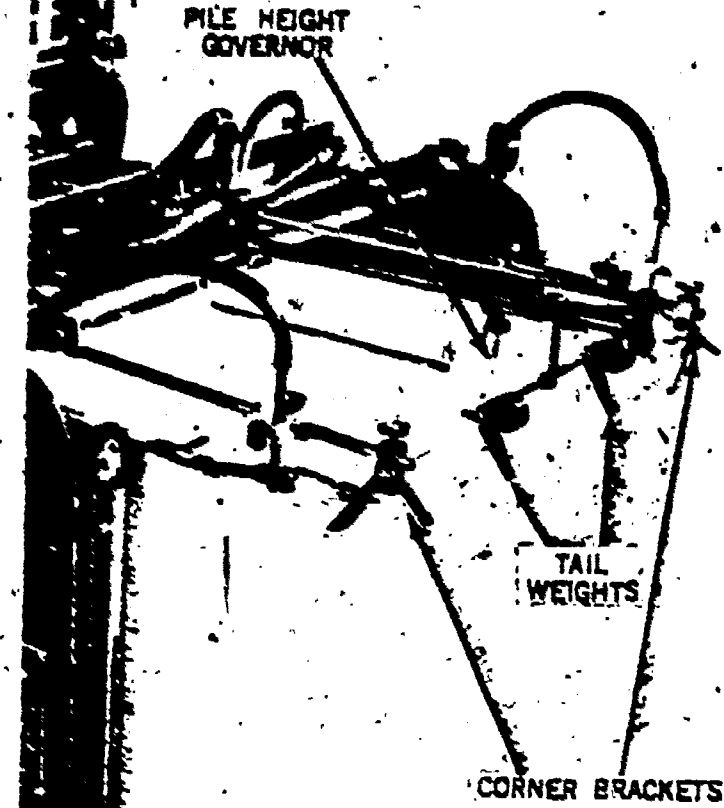

Figure 8-11. Feeder board rear pile guides.
Pile height governor	Regulates the height of the top of the pile as it is rising automatically (fig. 8-11).
Corner brackets	Used, along with the tail weights, to hold the stock against the pile guide bars (fig. 8-11).
Tail weights	Used, along with the corner brackets, to hold the stock against the pile guide bars. They keep the sheets from floating back when the airblast is turned on (fig. 8-11).
(6) *Setting rear pile guides* (fig. 8-11). Complete the loading of the feeder board by setting the corner brackets and tail weights. These push the entire pile lightly forward against the front pile guide bars. Do not set the corner brackets and tail weights too tight because they will bind the sheets, causing feeder troubles.